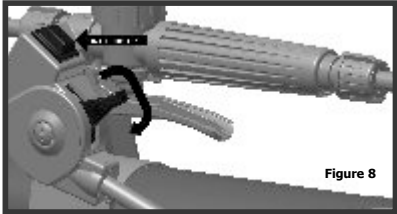

Figure 8
a) Place the ignition switch in the RUN position (I) - Figure 8
To stop the engine, fully return the throttle lever to the initial position ("idle"), and place the button (Figure 8) in the stop position "O".
In emergency situations, the engine can be turned off without the need to return the throttle lever to the starting position, but just pressing the button (Figure 8) to the off position "O".